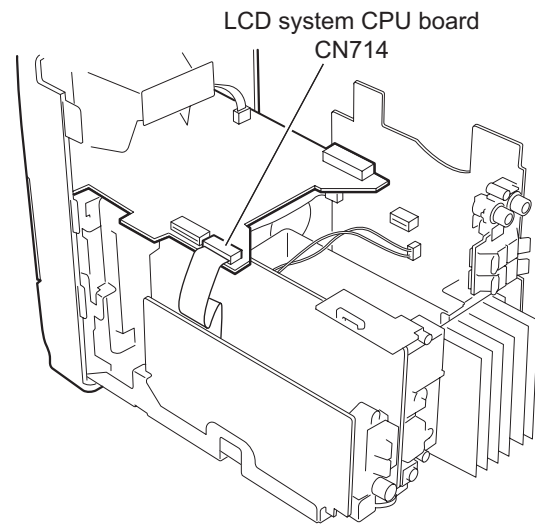

Fig.12
3.1.6 Removing the front panel assembly (See Fig.12,13)